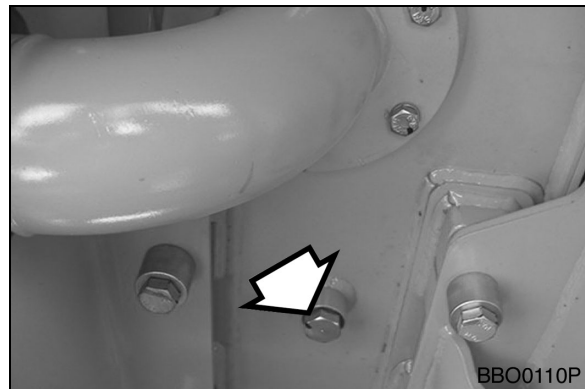

Figure 17
- B. Drain the excess oil from drain plug (Figure 17) at the bottom of the tank into a suitable container.